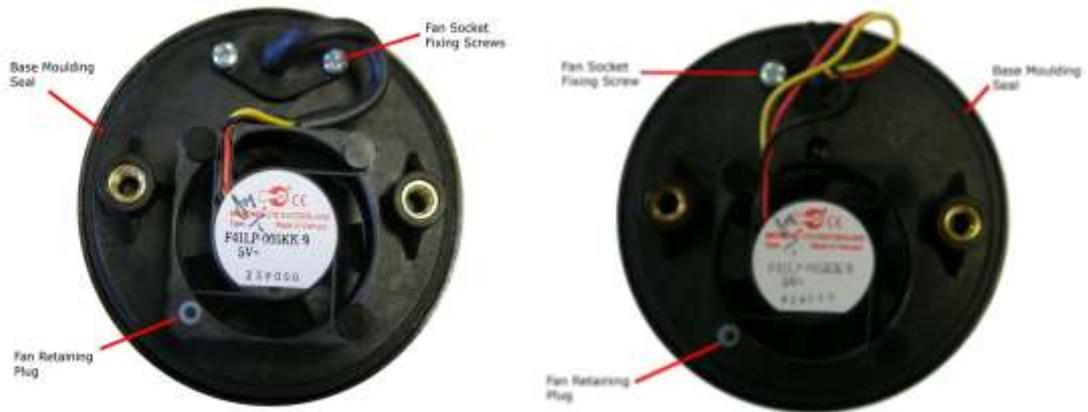

Figure 144
2. Remove and invert the top part of the Detector head. Examine the base moulding seal and replace if damaged or perished, see Figure 144.